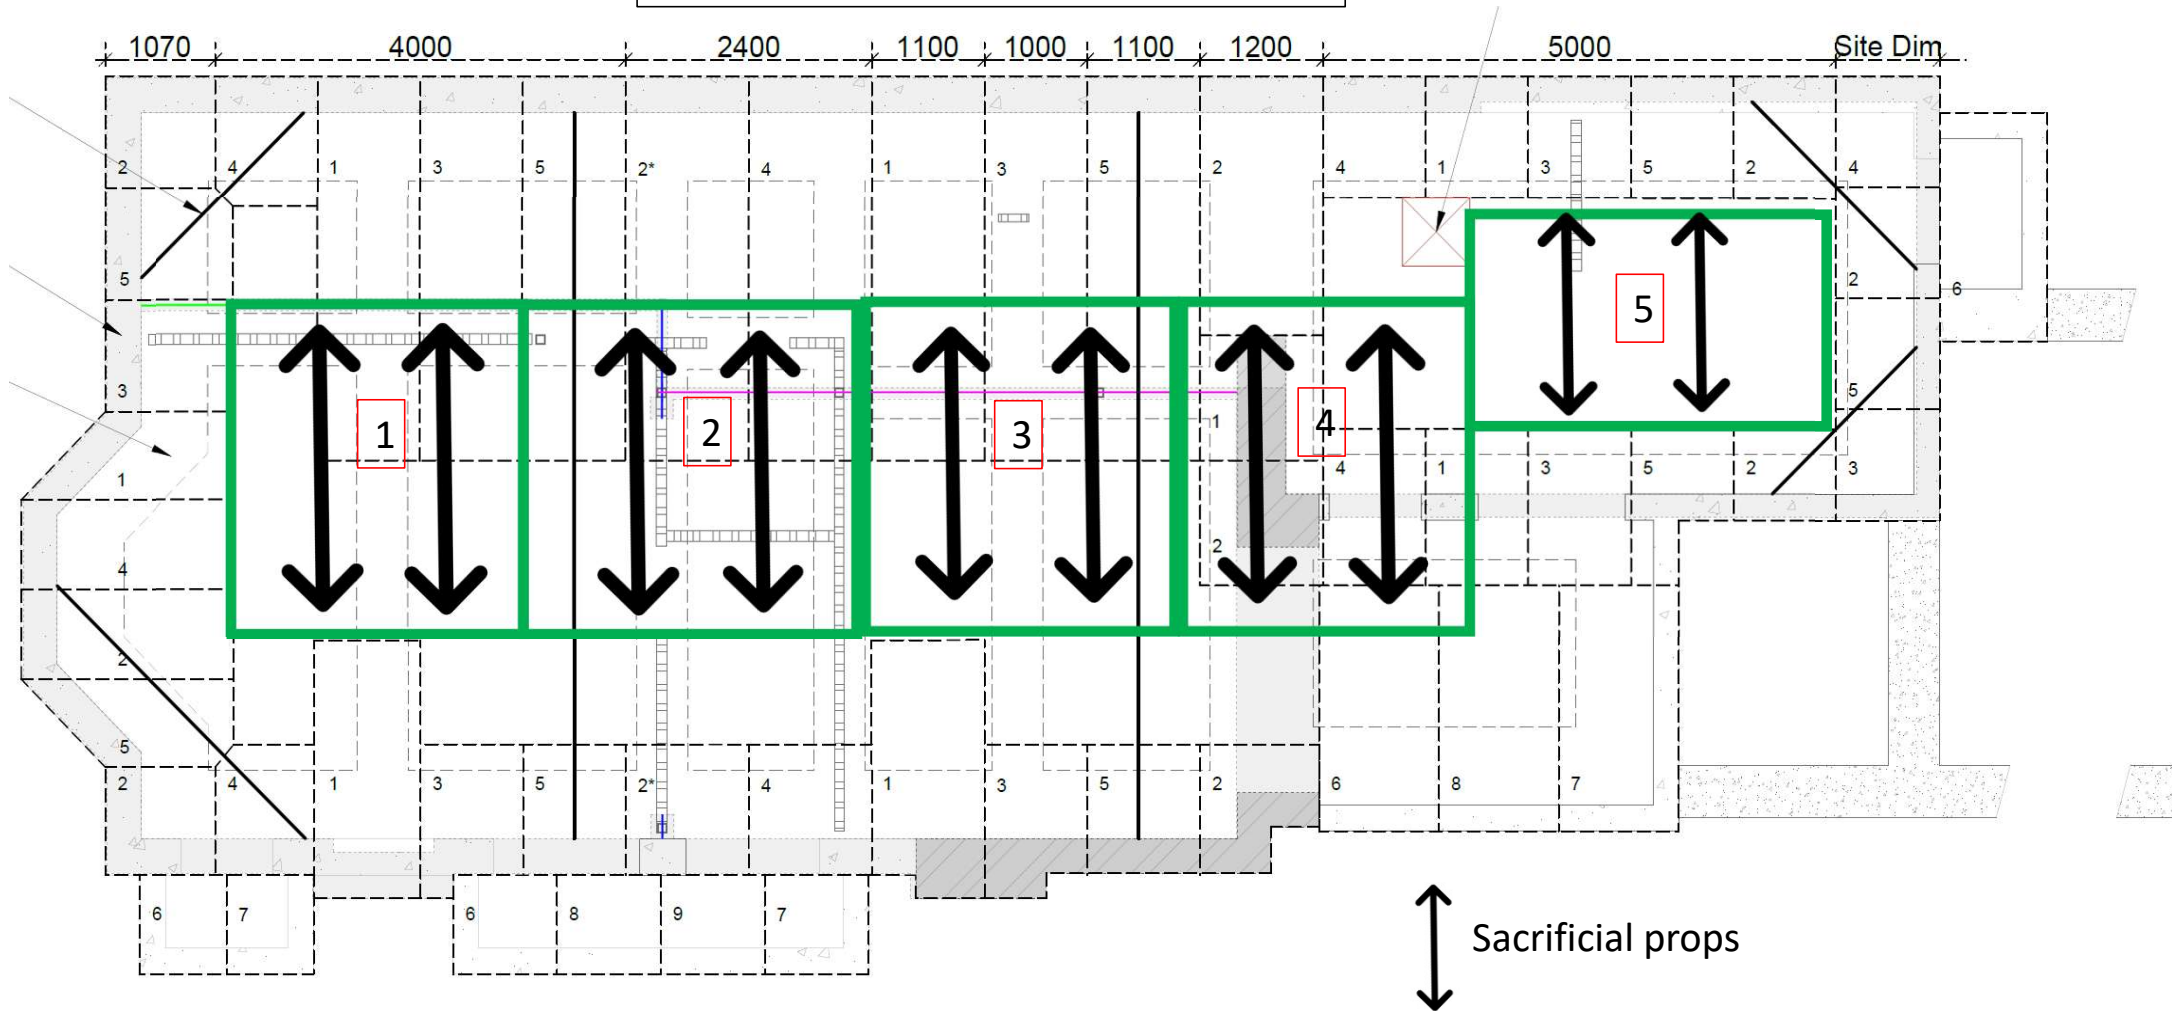

Fig 4 Monitoring Example
- During the underpin process monitoring will be undertaken every 2 weeks and report submitted to project team, target positions to be agreed by structural engineer. (Fig 4 example of report) and base readings to be undertaken before commencement of any demo/groundworks.